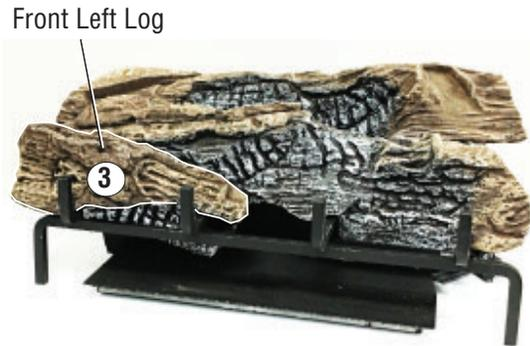

Figure 43 - Installing Log #3
3. Place the front left log (#3) onto the base assembly between the middle log and the grate. The back of the front left log will rest against the front of the middle log. The notch in the end of the front left log will fit around the grate bar. See **Figure 43**.